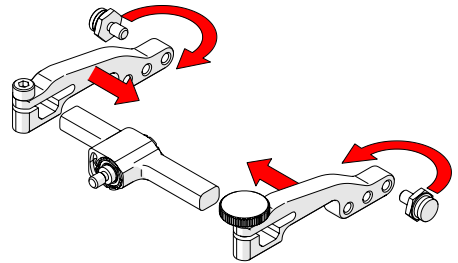

Fig. 133 - Attach arms and move buttons
4. Place the pivot buttons on the inside of the probe holder arms (Fig. 133) using a 3/8 in wrench (Fig. 40). Slide the arms onto the yoke and tighten the probe holder arm adjustment knob and the arm clamp screw.